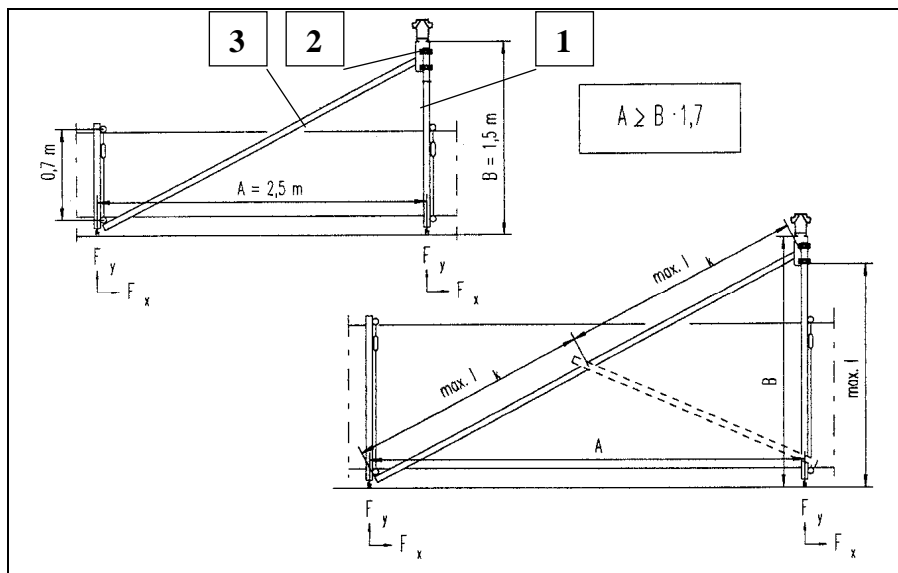
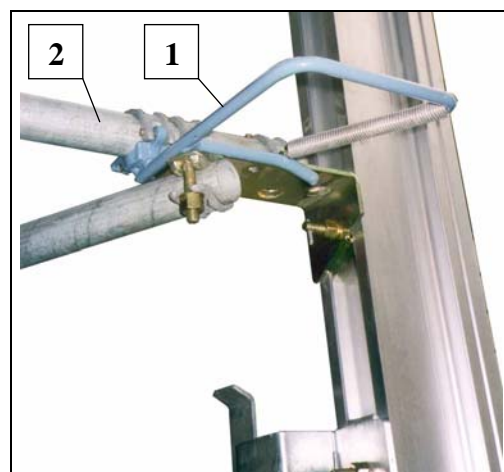
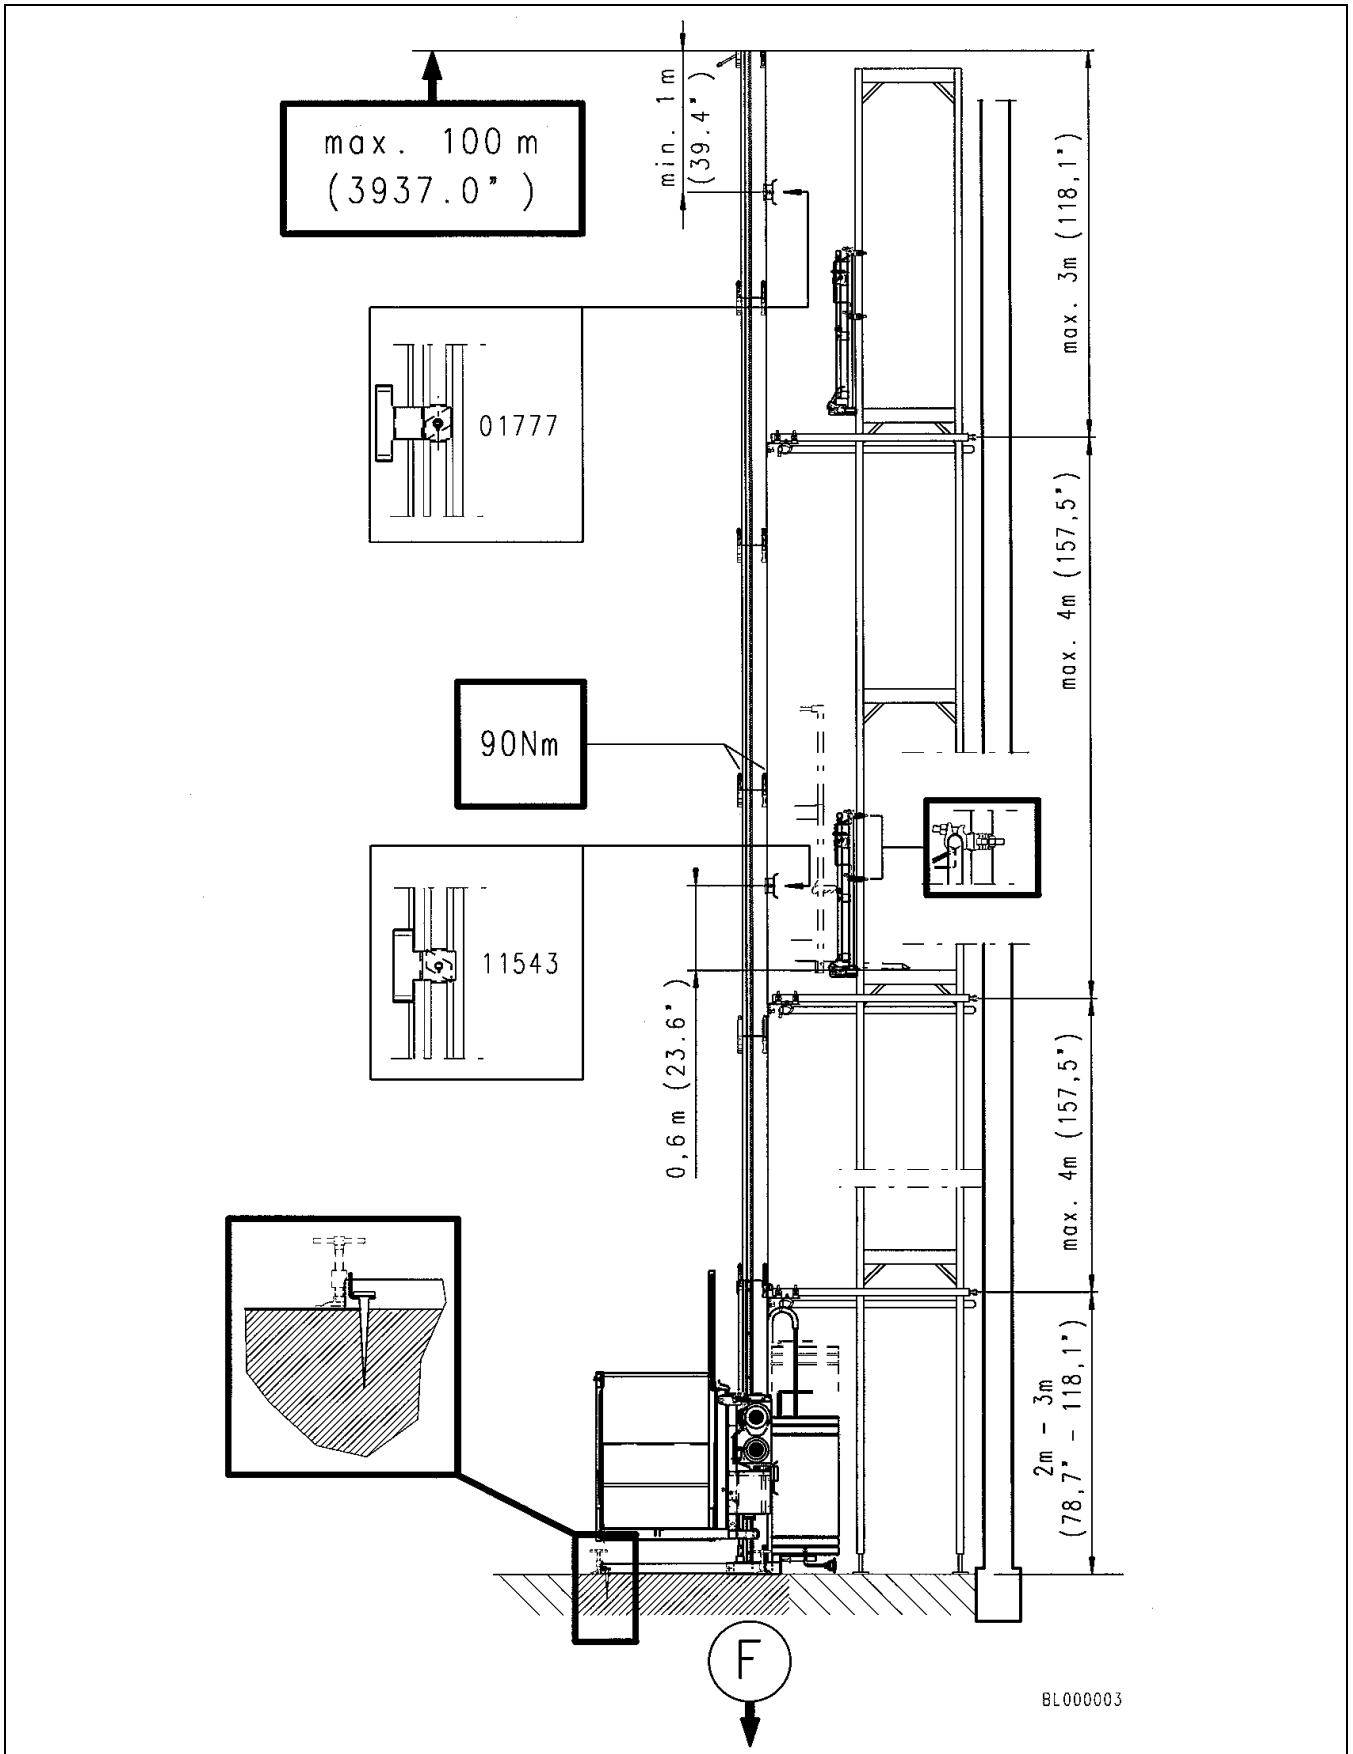

Fig. 34 Mast anchoring in front of scaffolding
Fig. 35 Cable routing
Fig. 36 Overview plan with vertical distances
- Place hoist on the points of support onto load distributing and level beds and align according to Fig. 34, Fig. 35 or Fig. 36. (Comply with foundation load capacity.)